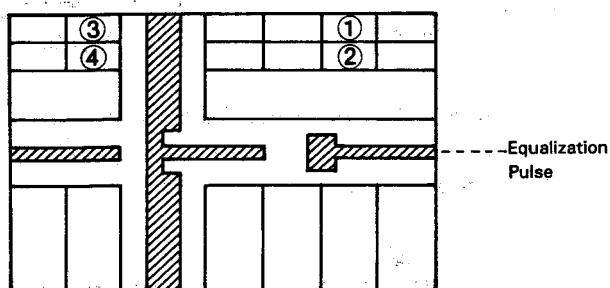

Fig. 26
13. Adjust L5308 (Tint for pulse cross) so that the Contrast for ① and ② is the same as shown in Fig. 26.
14. Adjust R5377 (Colour for pulse cross) so that the Contrast for ③ and ④ is the same as shown in Fig. 26.